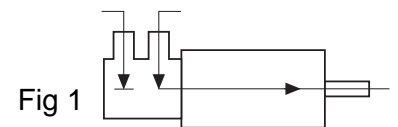

Fig 1
5. Magnetic valve MV 1 (Normally set as per fig. 1. Switches at autocalibration of G1 according to fig. 2.)